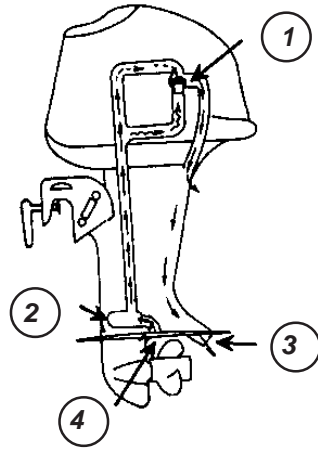

Figure 43.1 Figure for question 10
10. Name and state the function of parts 1–4 in Figure 43.1 below.